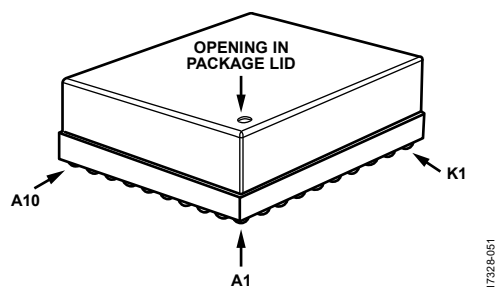

Figure 61. Pressure Relief Hole
- The hole in the top of the lid (see Figure 61) provides venting and pressure relief during the assembly process of the ADIS16505. This hole must be kept clear while attaching the ADIS16505 to a PCB. Although, covering the hole in normal operation is not typically a problem.